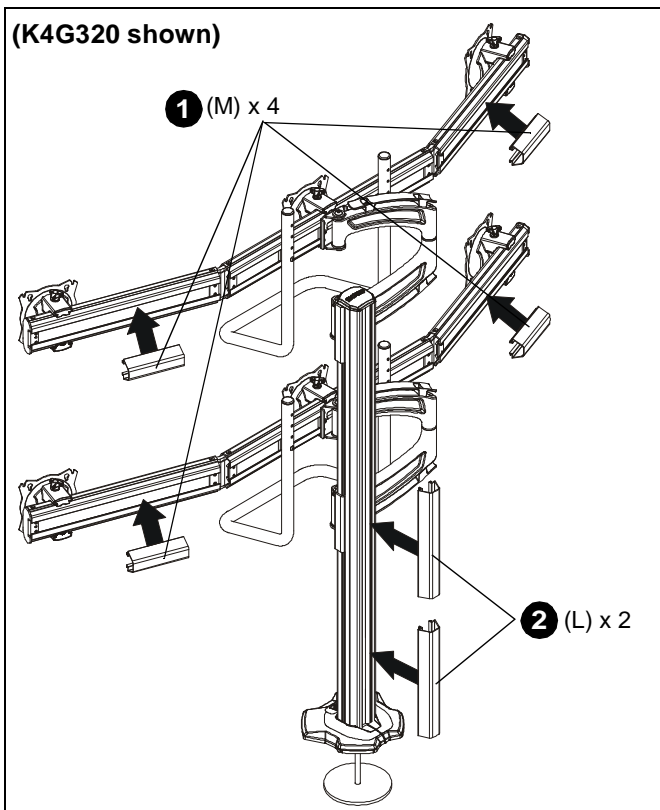

Figure 18
1. Install four 4 1/2" cable covers (M) to array arms. (See Figure 18)
2. Install two 9 1/2" cable covers (L) to column (H). (See Figure 18)